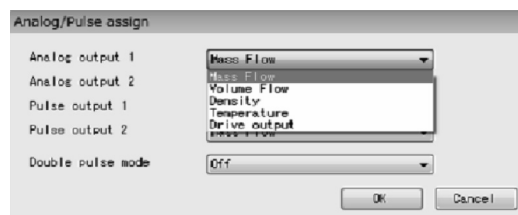
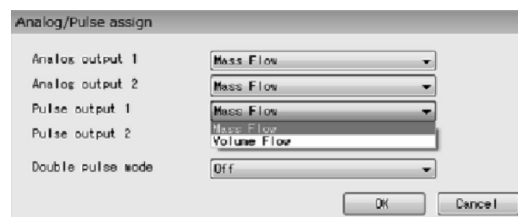
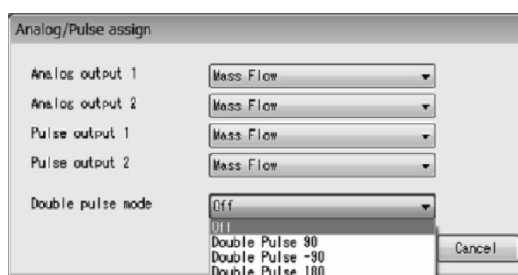

Fig.31
Fig.32
Fig.33
- ③ Set each item assignment. Make your selections from the drop-down lists by clicking the triangles on the right side of each item, as shown in Fig. 31, Fig. 32, and Fig. 33.